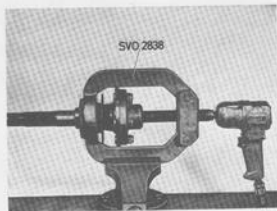

Fig. 4-147. Removing drive shaft bearing
4. Secure press tool 2838 in a vice. Secure the drive shaft to the spindle plate. Screw in the spindle so that the tool arms can be placed against the bearing, see Fig. 4-147. Screw out the spindle and press off the bearing and lock ring. Remove the oil seal.